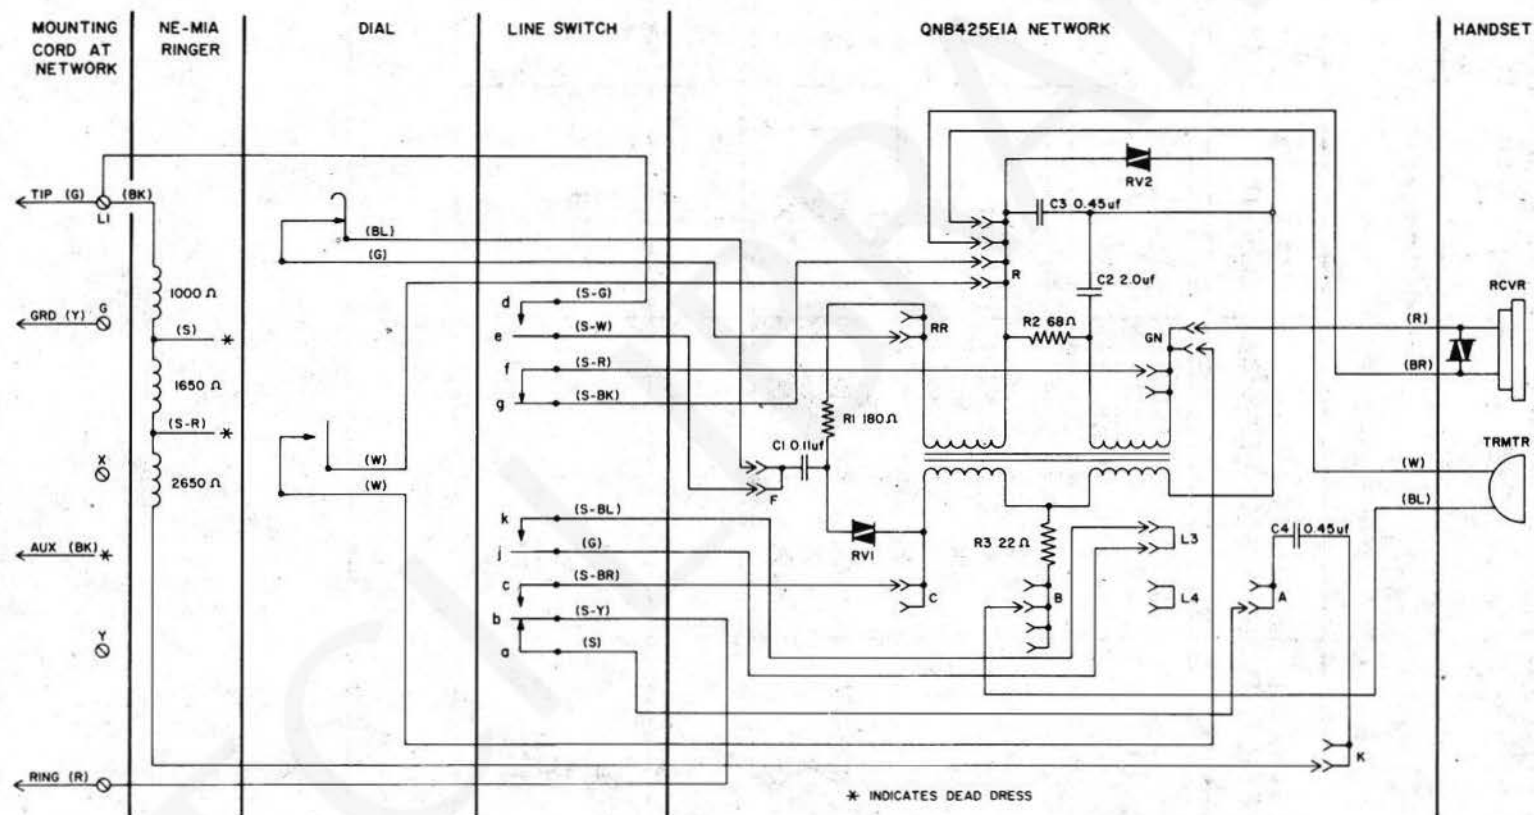

Fig. 5 — Schematic Diagram for MD9149-, MD9150-, MD9151- and MD9152-Type Telephone Sets
3.01 For information concerning connections, consult the schematic diagram (Fig. 5) and Table A.